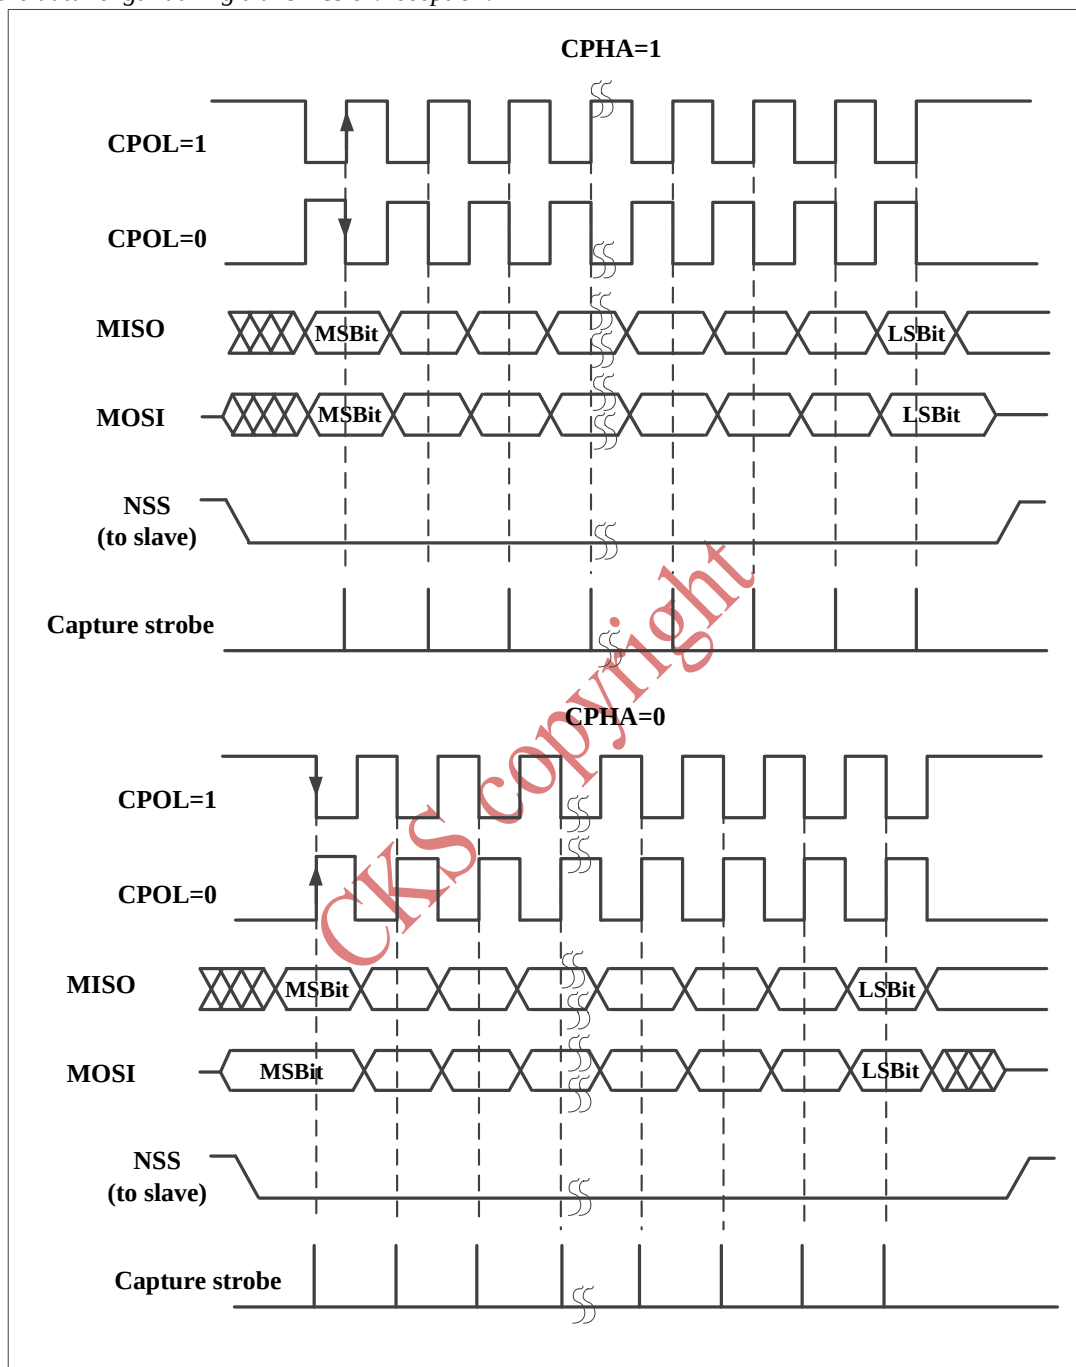

Figure 155 Data clock timing diagram
Figure 155 shows an SPI transfer with the four combinations of the CPHA and CPOL bits. The diagram may be interpreted as a master or slave timing diagram where the SCK pin, the MISO pin, the MOSI pin are directly connected between the master and the slave device.
2. Select the CPOL and CPHA bits to define one of the four relationships between the data transfer and the serial clock (see Figure 155). For correct data transfer, the CPOL and CPHA bits must be configured in the same way in the slave device and the master device.
2. Select the CPOL and CPHA bits to define one of the four relationships between the data transfer and the serial clock (see Figure 155).